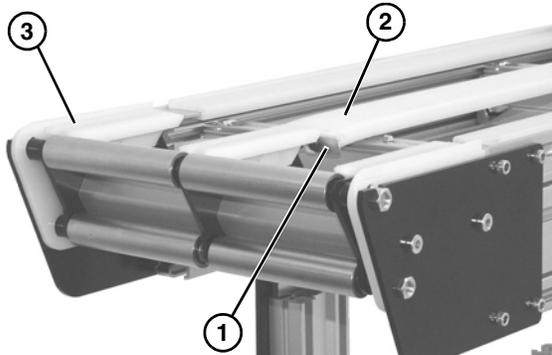

Figure 5
The stop plate (Figure 5, item 1) on the center wear strip (Figure 5, item 2) faces the idler end (Figure 5, item 3) of the conveyor.